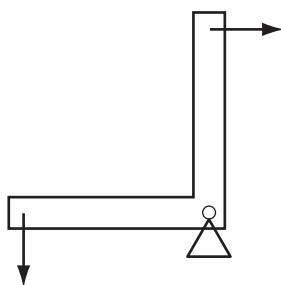

Fig. 5
- (b) Fig. 5 shows a bell crank lever.